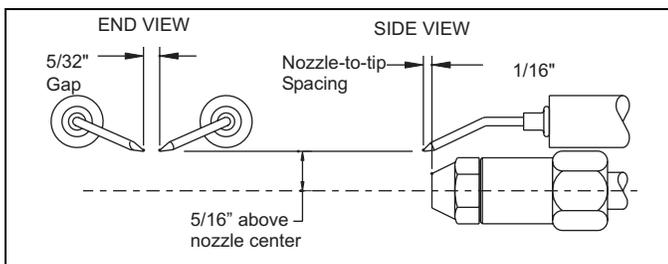

FIGURE 10: Electrode Settings
Remove the nozzle line assembly to verify that the nozzle size and spray pattern are correct for the application. See Table 3. Verify that the electrode tip settings comply with Figure 10.
- Carefully check and realign electrode tips after replacing nozzle, ensuring the electrode settings comply with Figure 10.
Check the electrode tip settings. Adjust if necessary to comply with the dimensions shown in Figure 10. To adjust, loosen the electrode clamp screw and slide / rotate the electrodes as necessary. Securely tighten the clamp screw when finished.